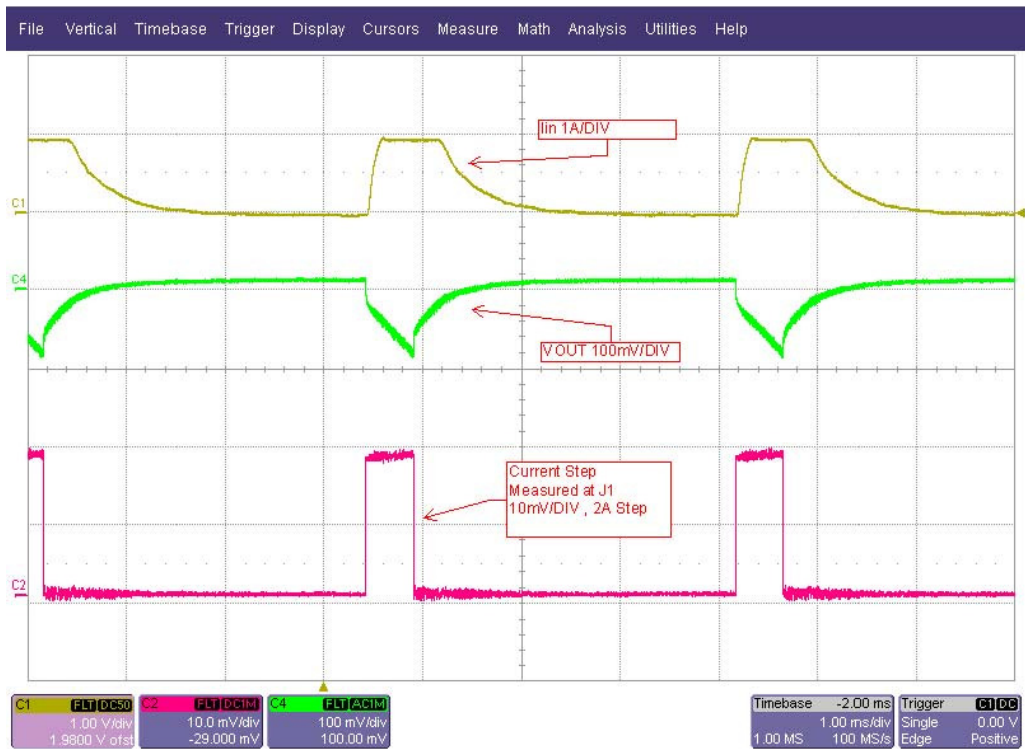

Figure 3. Step Load Response
8. Connect Signal Generator with an adjustable output amplitude between IOSTEP CLK and GND as shown in Figure 1. Adjust the signal generator output to produce a pulse of 2A as measured at J1 (IOSTEP, 10mV/DIV) with an ON time of 576 μ S and a period of 4.6 mS shown in Figure 3. Adjust the period and duty cycle of this signal to match that of the required load prior to attaching the pulse generator. The amplitude can vary but is approximately 2Vpp for a 2A step. Oscilloscope termination should be 1M Ω .
An example result showing Vout and a pulse load Iout is given in Figure 3.